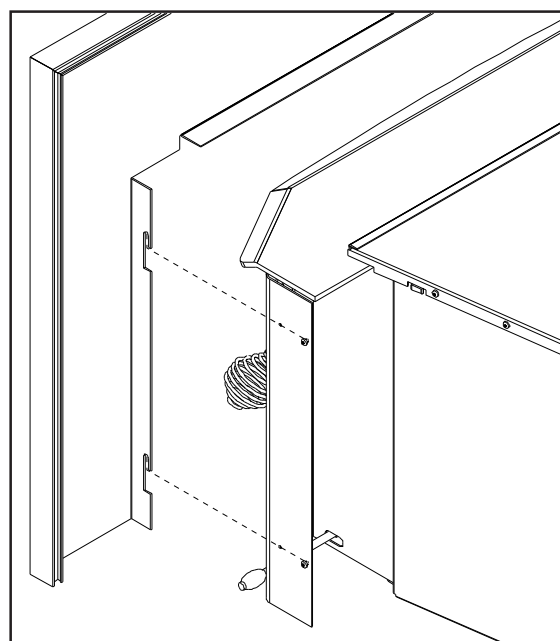

Figure 54: Installation of Panel.
There are two (2) hooks on either side of the inside of the panel. Line up the openings on the hooks with the screws on the outside of either shroud (see Figure 54). Push the surround in and push it down into place.